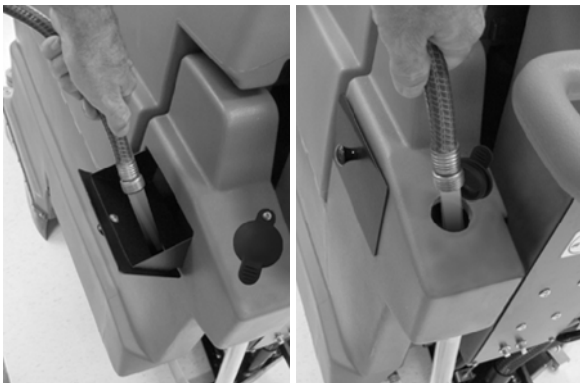

FIG. 9
3. Open solution fill door on side of machine and fill solution tank with clean water, 60°C (140°F) maximum temperature. Or you can fill solution tank using hose fill port at rear of machine. Pull off plug and insert hose to fill. The clear tube below the fill port has 19L (5 gallon) increment markers to indicate amount of water in tank (Figure 9).